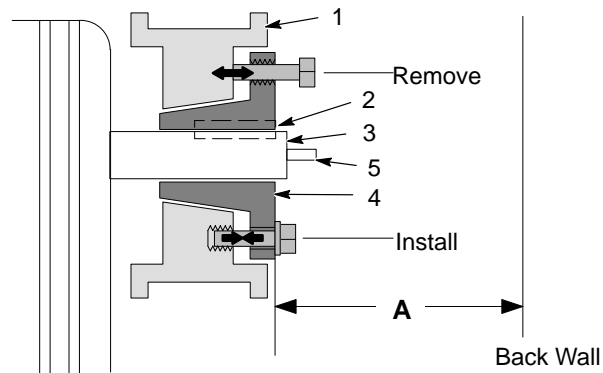

Figure 13 Gear Motor/Pulley Replacement
9. See Figure 13. Place a straight edge across the surface of the bushing (4) and measure the distance **A** from the back wall of the frame to the outside surface of the bushing.